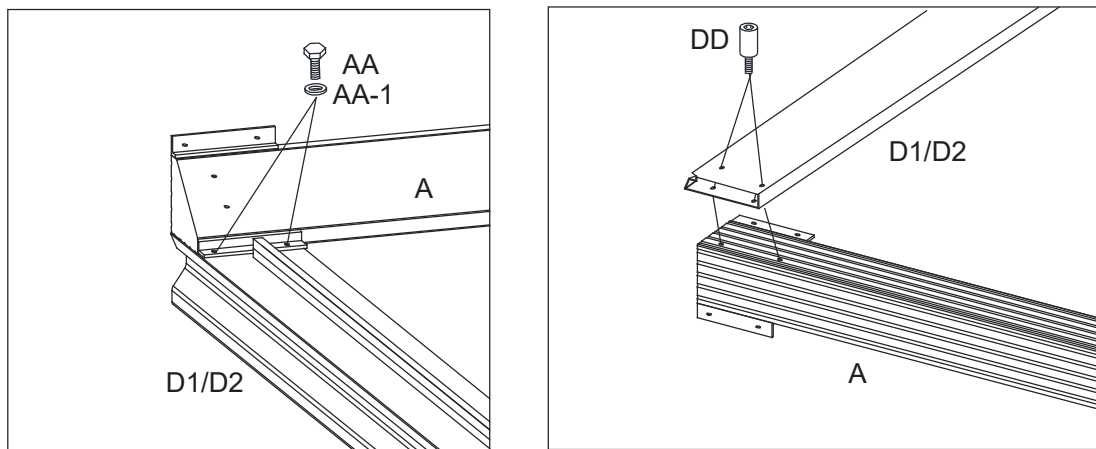

Figure 4-1
4.1: Attach Long Lintels (D1 and D2) to end of Corner Posts (A) first with Bolts (AA) and Steel washer (AA-1) then with Bolts (DD). Tighten all Bolts. See Figure 4-1.